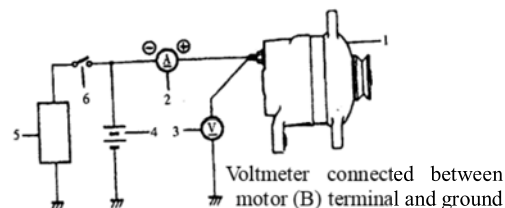

Figure 6.1-3
(1) Connect the voltmeter and amperemeter as per Figure 6.1-3. The battery used here should be sufficiently charged.